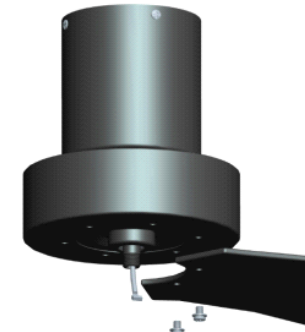

Fig. 7.1
7.1 Remove the blade screws from the motor head. Align two blade holes with the corresponding screw holes on the motor head, and secure the blades using the blade screws, as illustrated in Fig. 7.1.